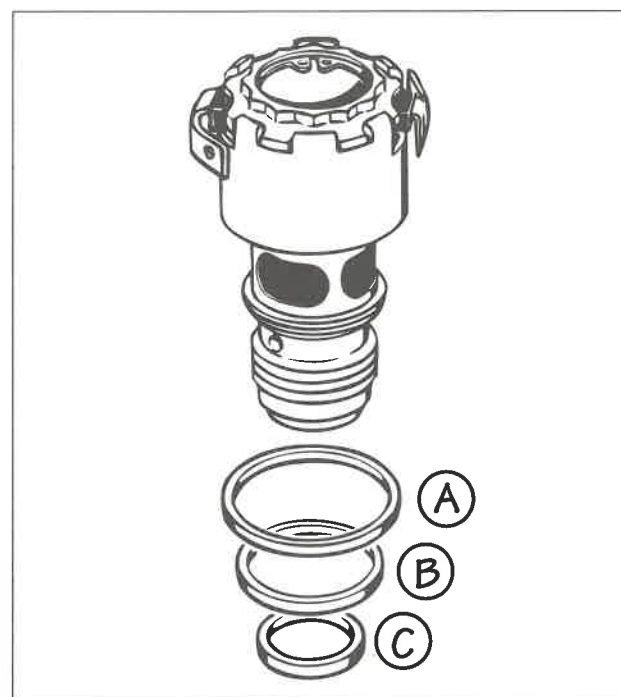

FIG. 34
5. Using new solenoid seal rings, coat them with clean lube oil. Install the upper (A) and center (B) seal rings on the solenoid body and the lower (C) seal ring into the bottom of the solenoid bore in the housing (see Fig. 34).